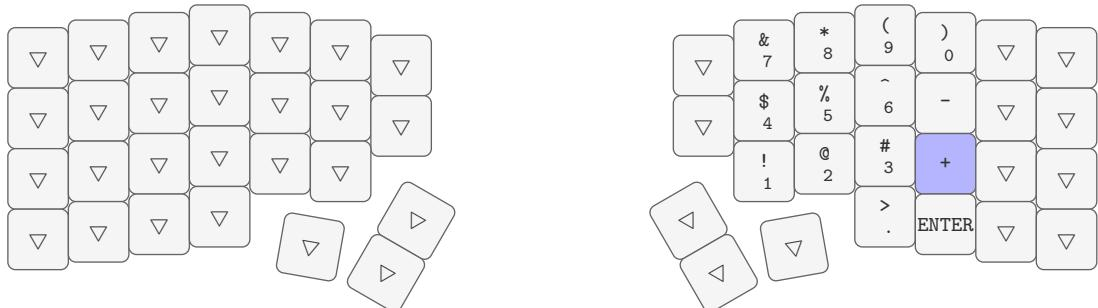

Figure 8: Layout for layer 2
- Layer 2 single thumb key (figure 8)